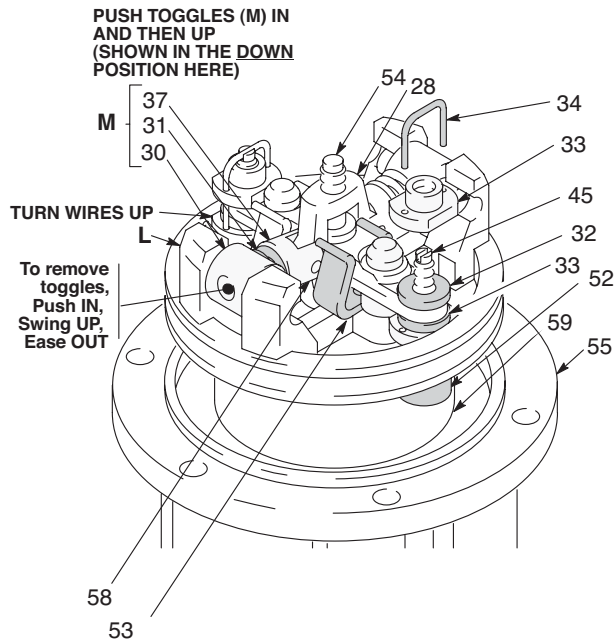

FIG. 16
8. Use a screw driver to push down on the trip rod yoke (28) and snap the toggles down. (FIG. 16)
- Remove the lockwires (34) from the adjusting nuts (33) of the transfer valves. Screw the top nuts off. Screw the stems (45) out of the grommets (32) and the bottom nuts (30). Take the valve poppets (52) off the stems and squeeze them firmly to check for cracks. (FIG. 16)
- Grip the pivot pins (30) with pliers. Compress the springs (31) and swing the toggle assembly (N) up and away from the piston lugs (L). Remove the parts. Check to see that the valve actuator (35) is supported by the spring clips (58), but slides easily into them. (FIG. 16)
- Remove the trip rod yoke (28), actuator (35) and trip rod (54). Check the exhaust valve poppets (53) for cracks. To remove the exhaust valve poppets (53), stretch them out and cut with a sharp knife. (FIG. 16)
5. Install the grommets (32) in the valve actuator (35). Install the trip rod (54) in the piston (59). Place the trip rod yoke (28) and valve actuator (35) on the trip rod. Be sure the o-ring (36) is in place and that the valve actuator is supported by the spring clips (58), and then reassemble the valve mechanism. (FIG. 16)
7. Install the springs (31) and pivot pins (30) on the toggle arms (37). Snap the toggles to the up position. (FIG. 16)
8. Carefully lower the cylinder (51) over the piston (59) and onto the base (55). Secure with the six screws (25).
9. Manually push on the piston rod (41) to move the piston (59) up as far as it will go. Grip the trip rod (54) with padded pliers and screw the cylinder cap nut (47) onto the trip rod. Pull the piston rod (41) to move the piston downward. Be sure the o-ring (27) is in place at the top of the cylinder (51), and then screw the cap nut into the cylinder.
10. Screw the connecting rod (10) into the piston rod (41) and secure with the pin (4). Screw the riser tube (12) into the base (55).
11. Install the muffler plates (20, 40). Tighten the throat packing nut (42) just until snug.